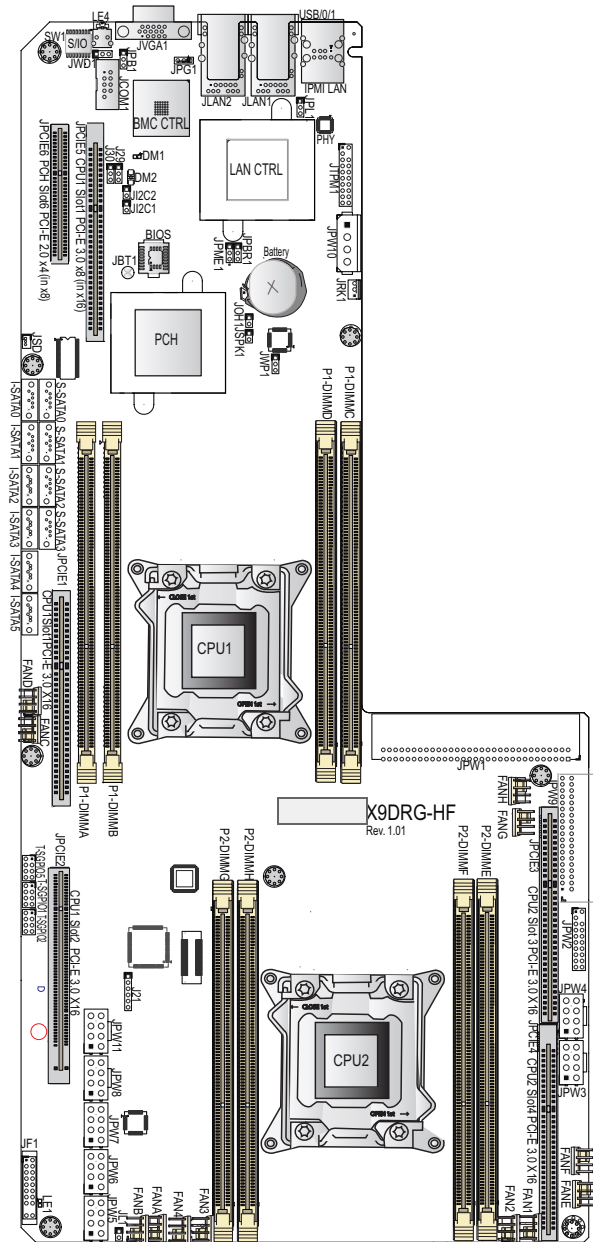

Figure 5-2 Node Board Features
- See Figure 5-2 on page 36 for CPU locations on the serverboard - note that the drawing is not to scale.